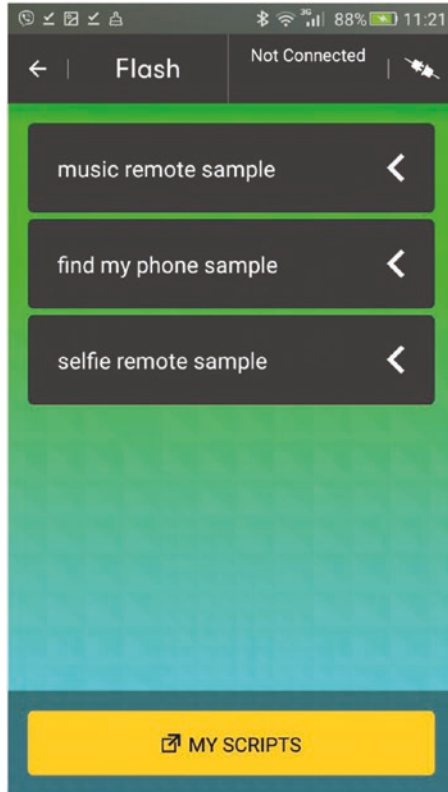

Figure B-9. Tapping the MY SCRIPTS button
2. Then tap the MY SCRIPTS button (see Figure B-9).